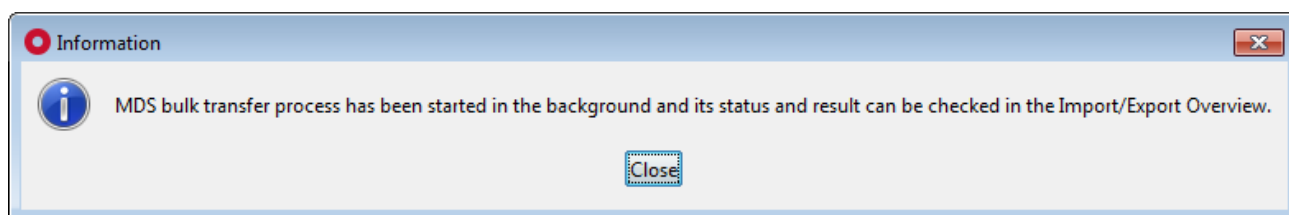

Figure 252 Information message that the MDS bulk transfer process has been started
- If **yes**, the MDS bulk transfer process will be started and the information message will be shown to the user (see **Figure 252**)